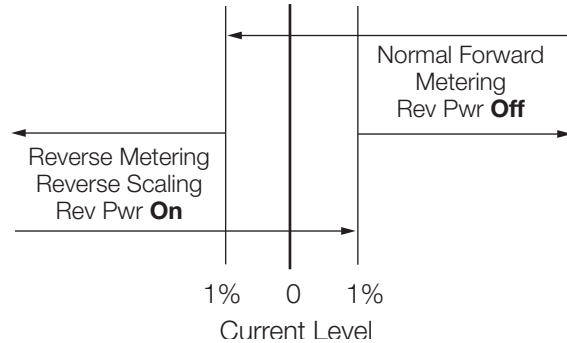

**Figure 6-5. Reverse idle mode\* operation.**
**OPERATION:** (Figure 6-5.) The threshold for which the control switches operation is programmable at FC 57 over the range 1 to 5% of the rated CT current. When the real component of the current is above this threshold, the control operates in the normal forward direction. When current falls below this threshold, all tap changing is inhibited.